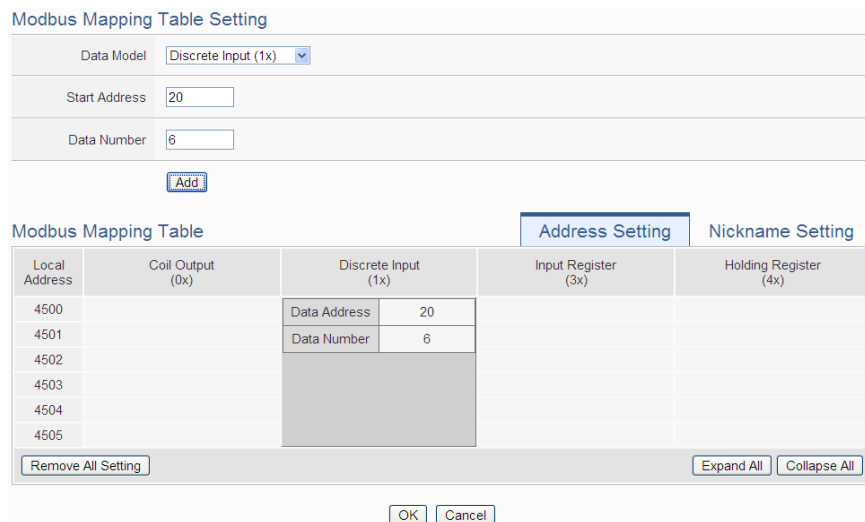

Figure 6-38 : Discrete Input Setting Example for Modbus RTU module
- After finishing the “Start Address” and “Data Number” setting, click on “Add” button. A new Discrete Input address block will be added to the Modbus address mapping table. All added address blocks will be located in sequences starting from the Starting Address (The address number on the first column of the “Local Address” indicates the local Modbus address of WISE to keep the Discrete Input data.). Figure 6-38 shows an example about Discrete Input setting for a Modbus RTU module. The starting Modbus address of the Discrete Input block is 10020(10000 + 20), it requires to set 6 continuous Discrete Input data in the setting. So that the WISE can access the 10020, 10021, 10022, 10023, 10024, and 10025 Discrete Input address of the module, and these retrieved Discrete Input data will be kept in WISE Modbus Address 14500、14501、14502、14503、14504 and 14505.